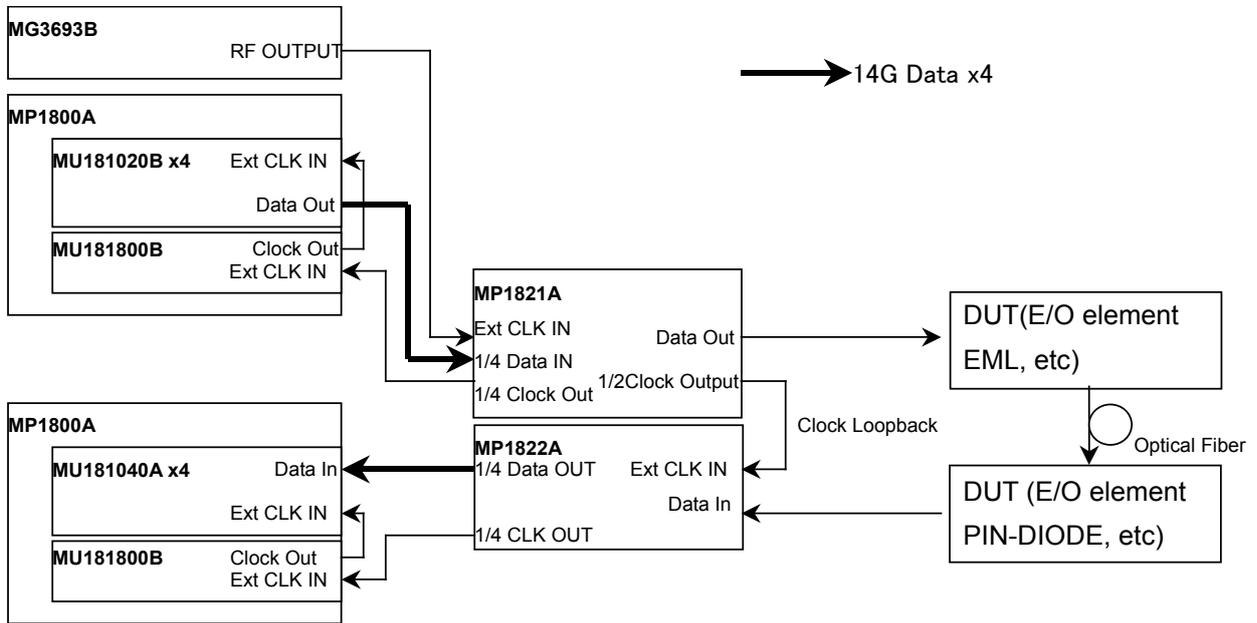

Figure 5.1-1 Connection diagram for XFP module evaluation
- (1) Connect MP1821A, MP1822A, MP1800A, MU181020B, MU181040B, MU181800B, and MG3693B Signal Generator (hereafter, MG3693B), referring to Fig. 5.1-1.
- (2) When connecting this equipment and the MU181020A/B, the two MU181020A/B modules must be synchronized. (This equipment requires synchronization of the four MU181020A/B modules when using the MU182021A.)
Connect the input/output signals using the coaxial cable of application parts or an equivalent coaxial cable. At this time, short the core of the cables using a thin pointed metal stick, such as tweezers, before connection. See Figure 5.1-1 for connection of the instruments.
- (1) Connect MP1800A, MU181020B, MP1821A, MU181040B, MP1822A, and MG3693B, referring to Fig. 5.1-1.
- (2) When connecting the MP1821A and the MU181020B, the four MU181020B modules must be synchronized. In addition, when connecting the MP1822A and MU181040B, the four MU181040B modules must be synchronized.